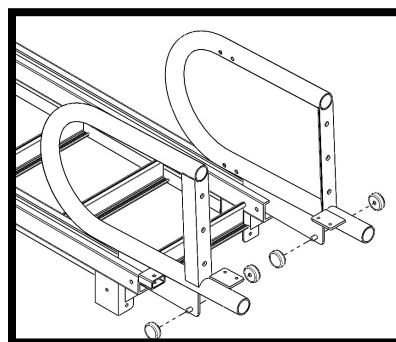

Figure 2
3. Install Dock Mount Arm/Roller Assembly (R) and move into Ladder allowing access to Lower Roller Pins.
4. Attach Rollers (2) to Lower Roller Pins on Dock Mount Arm (R). See Figure 2.
2. Install Dock Mount Arm/Roller Assembly (L) and move into Ladder allowing access to Lower Roller Pins.
3. Attach Rollers (2) to Lower Roller Pins on Dock Mount Arm (L). See Figure 2.